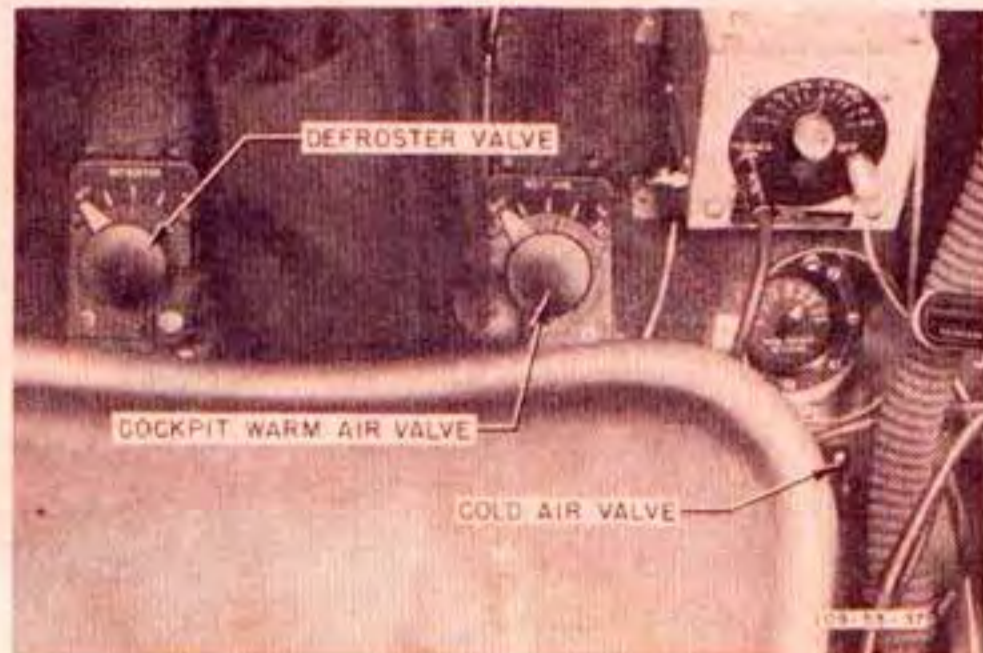
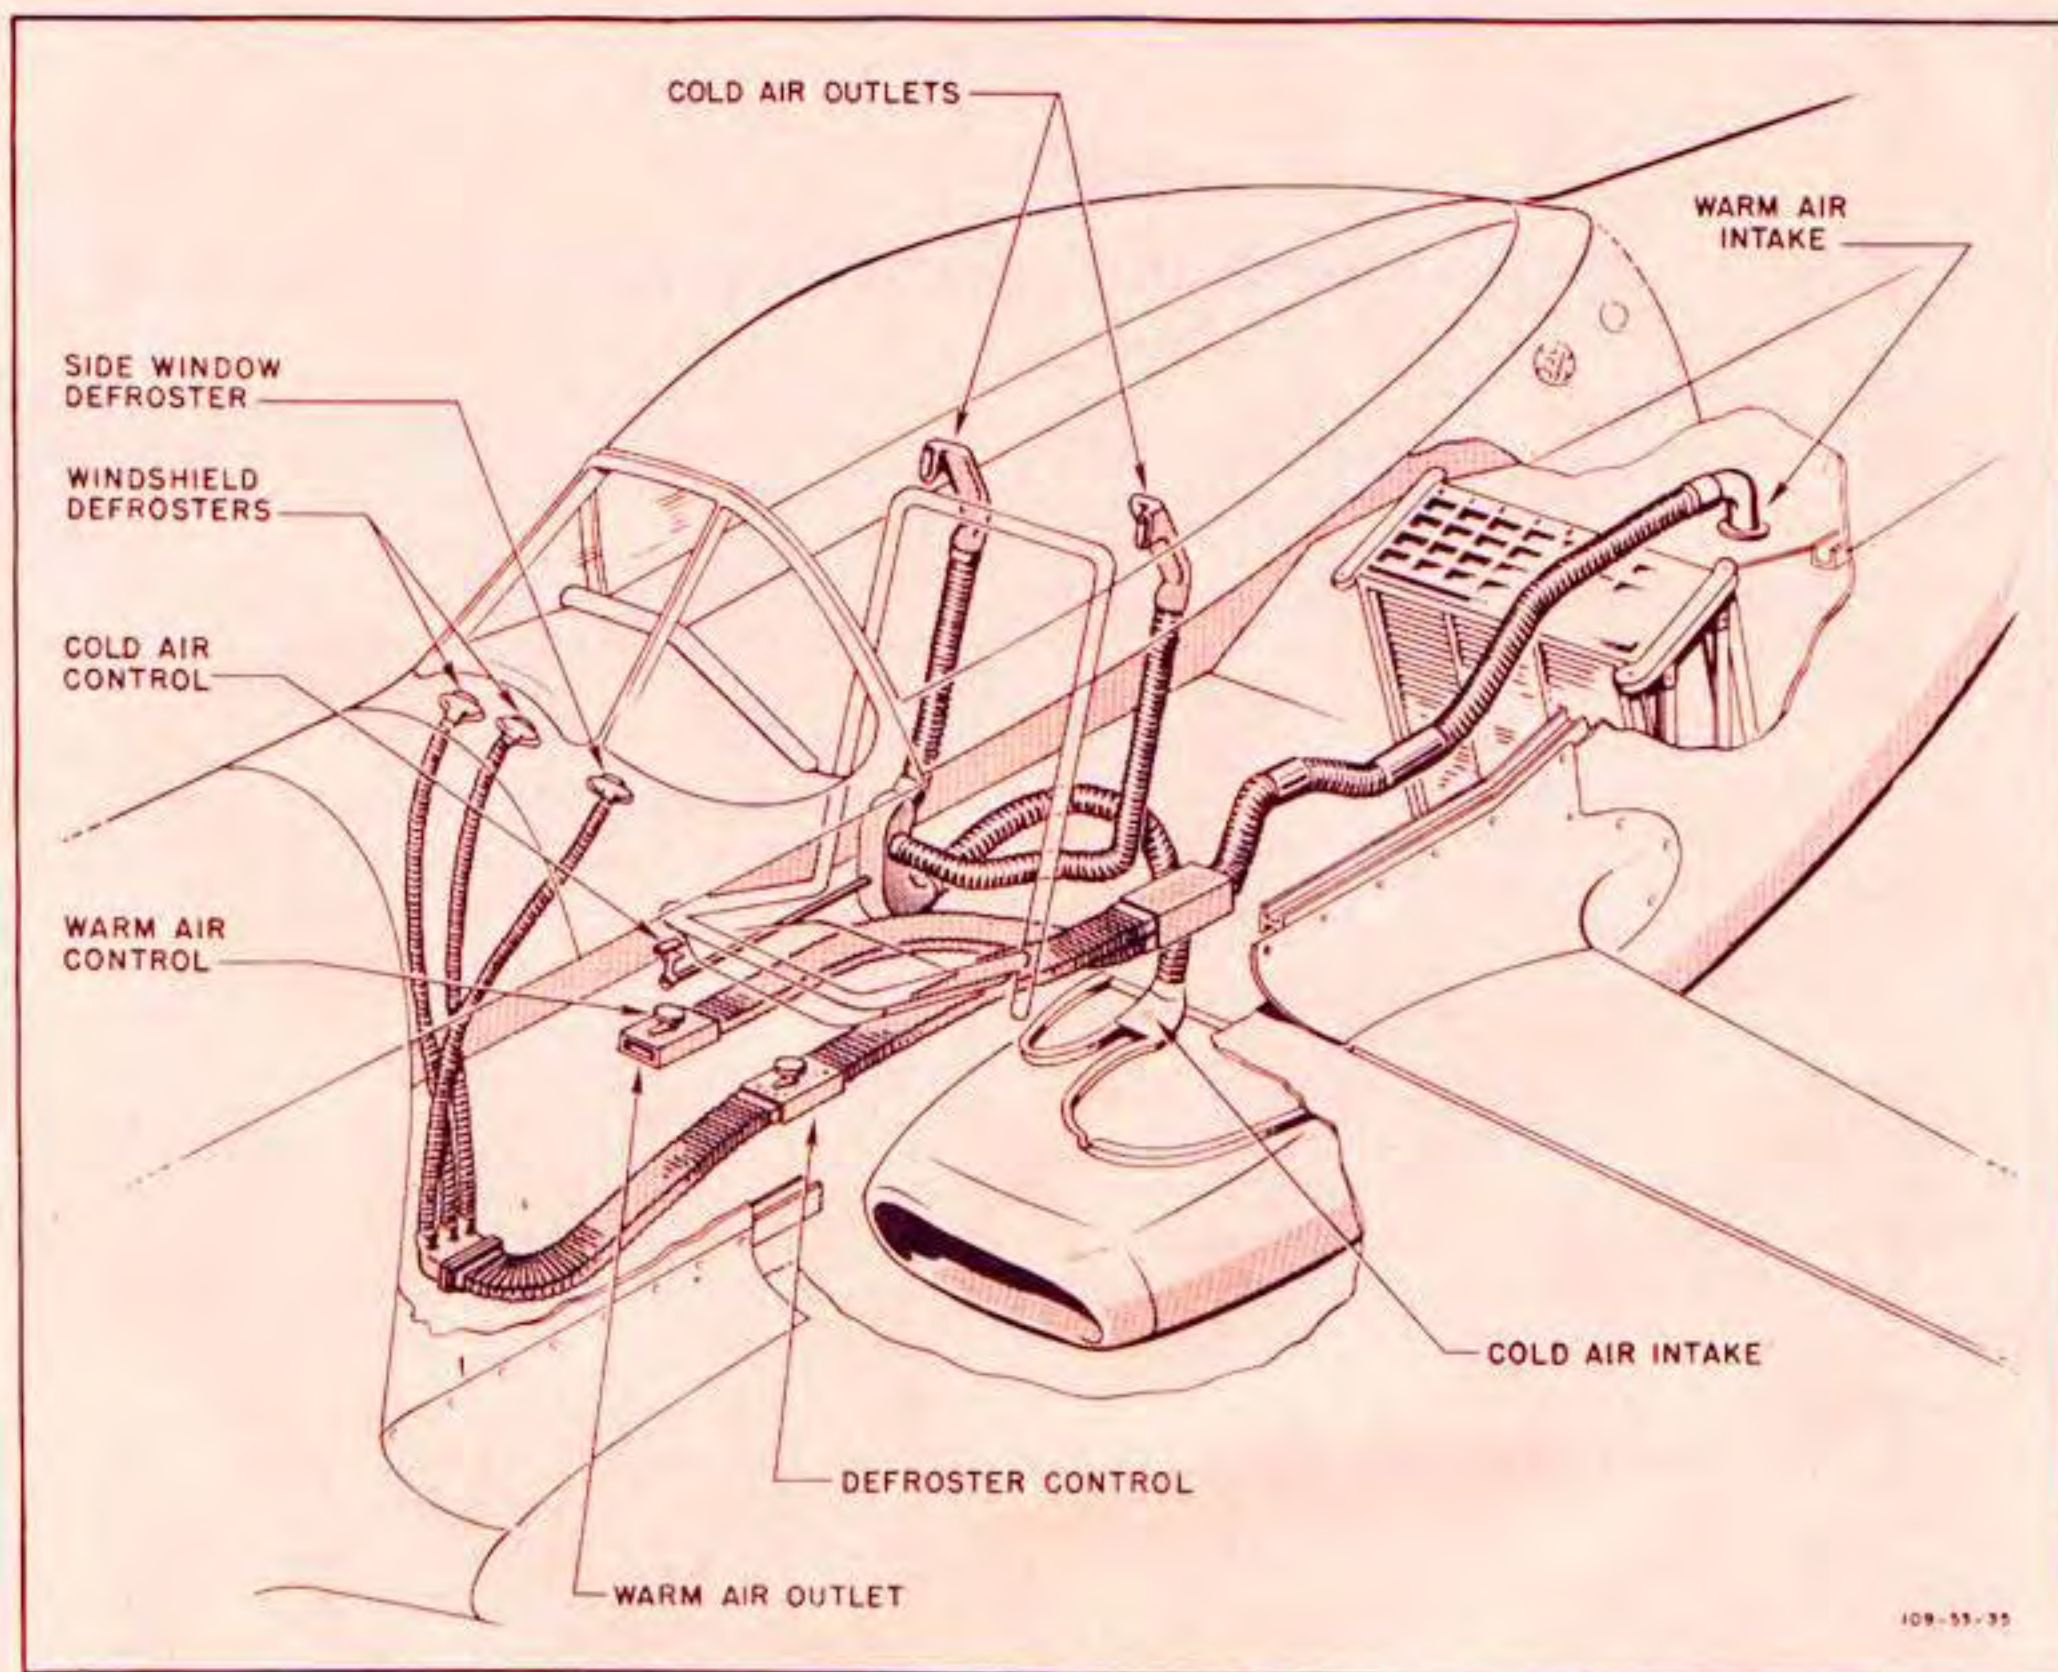

Figure 464—Heating, Venting, and Defrosting Controls
Figure 465—Heating, Ventilating, and Defrosting Systems
a. HEATING AND DEFROSTING SYSTEMS.—Warm air for heating the cockpit and defrosting the windshield and side windows is diverted through a port in the dome aft of the coolant radiator. (See figure 465.) The warm air passes through a flexible duct to a point behind the pilot's seat, from which the system branches out to the cockpit hot air outlet valve on the right side of the cockpit, and to the defroster valve forward and left of the pilot's seat. From the defroster valve, the warm air is conducted to a distributor fitting to which are attached the three defroster tubes. The cockpit warm air valve and the defroster valve (figure 464) are both of the gate type, the pointer attached to the valve handle
b. VENTILATING SYSTEM. (See figure 465.)—Air for cooling and ventilating the cockpit is diverted by a scoop within the forward part of the radiator air inlet scoop and is conducted through a flexible tube to a valve behind the pilot's seat. Two smaller flexible tubes then carry the cool air to the outlet assemblies, one of which is located on each side of the pilot's seat just below the window. A handle on the floor at the left of the pilot's seat controls the cool air valve. (See figure 464.)